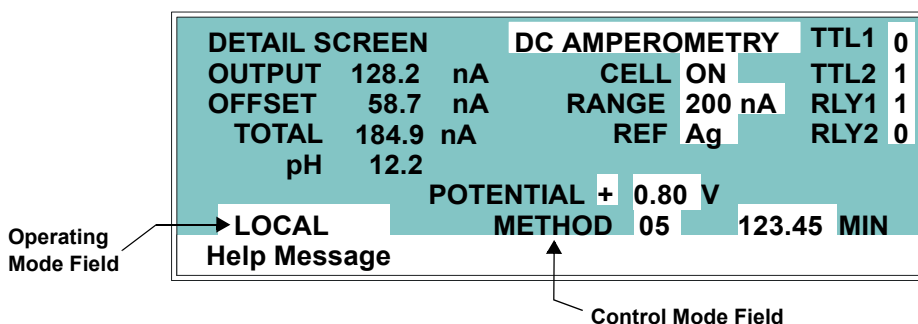

Figure 3-3. DC Amperometry Detail Status Screen—Local Mode, Method Control
2. To select the control mode, position the cursor in the control mode field (see Figure 3-3) and press **Select** Δ or **Select** ∇ to toggle to **DIRECT CNTRL** or **METHOD**.